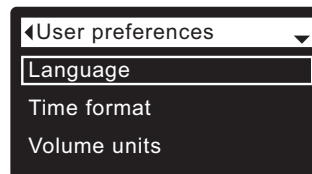

FIG. 54
3. Press the SELECT (O) button to display the User preferences menu (See Figure 54).
7. Press the SELECT (O) button. The display will go back to the User preferences menu (Figure 54).